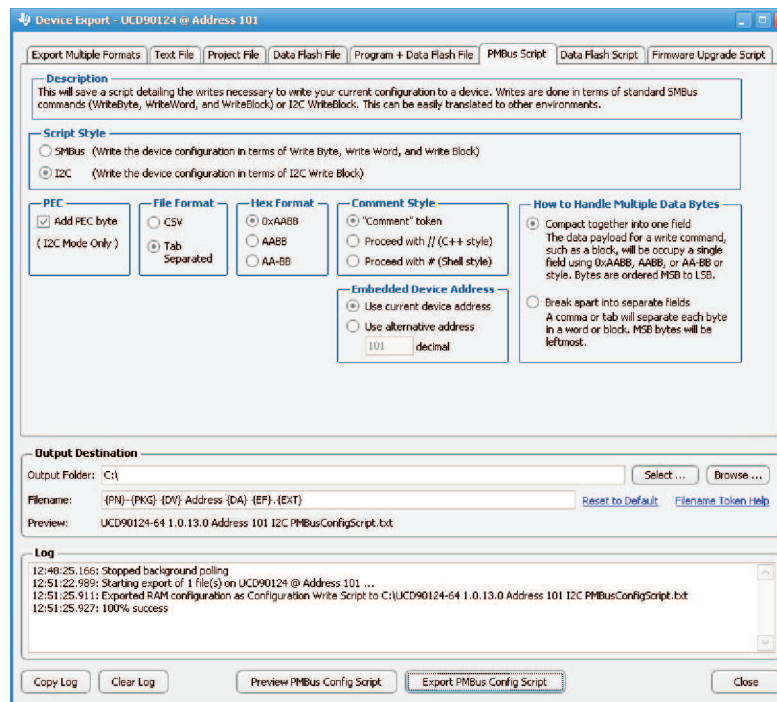

Figure 24. Fusion GUI PMBus Configuration Script Export Tool
2. The *Fusion GUI* (Figure 24) can create a PMBus or I²C command script file that can be used by the I²C master to configure the device.